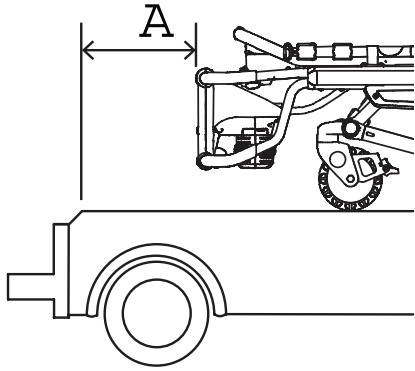

**Figure 3 – Hex wrench and removal tool extension**
**Note** - Store the hex wrench and removal tool extension (Figure 3) inside of the center cover assembly so you can access these tools when you remove **Performance-LOAD**. See *Removing Performance-LOAD quickly* (page 22).